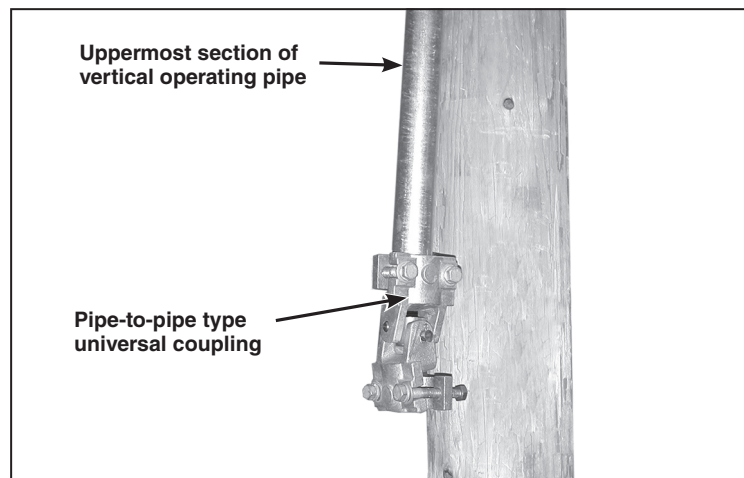

Figure 22. Attach the pipe-to-pipe type universal coupling to the lower end of the vertical operating pipe.
STEP 21. Attach a pipe-to-pipe type universal coupling to the lower end of the uppermost section of the vertical operating pipe. See Figure 22. Back the piercing set screw out of the body of the pipe coupling before tightening the coupling clamp bolts.